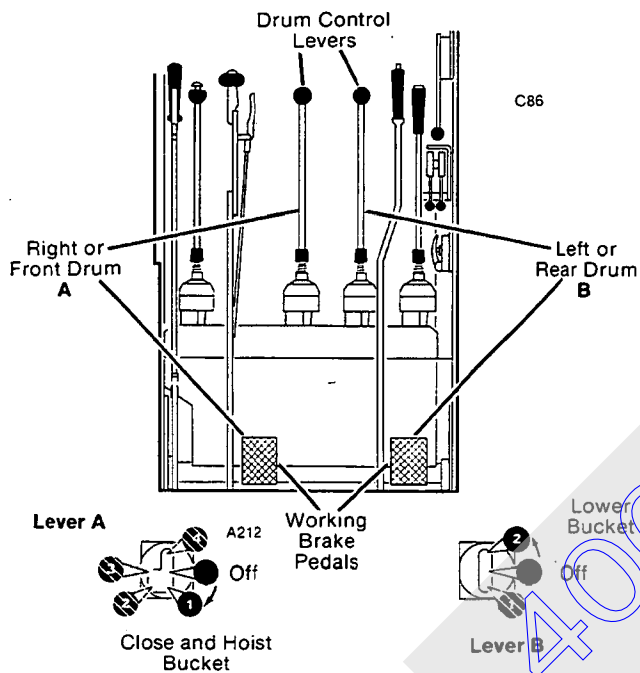

Figure 12 Drum Controls — Clamshell with AUTO TAKE-UP
Clamshell with Auto Take-Up (Figure 12) Flexair Drum Control Valves
9. With the bucket open and in the digging area, pull lever (A) back to Position 1, Figure 12 and release both brakes (A and B).
14. As soon as the bucket is empty, push lever (B) all the way forward to position (2, Figure 12) and slowly release brake (B) to lower the bucket. Apply brake (A) to keep slack out of the closing line while lowering. Apply brake (B) to slow the lowering speed, as required.
16. When the bucket is in the digging area, fully release both brakes (A and B), pull lever (B) to OFF, and pull lever (A) back to Position 1, Figure 12 to repeat cycle.